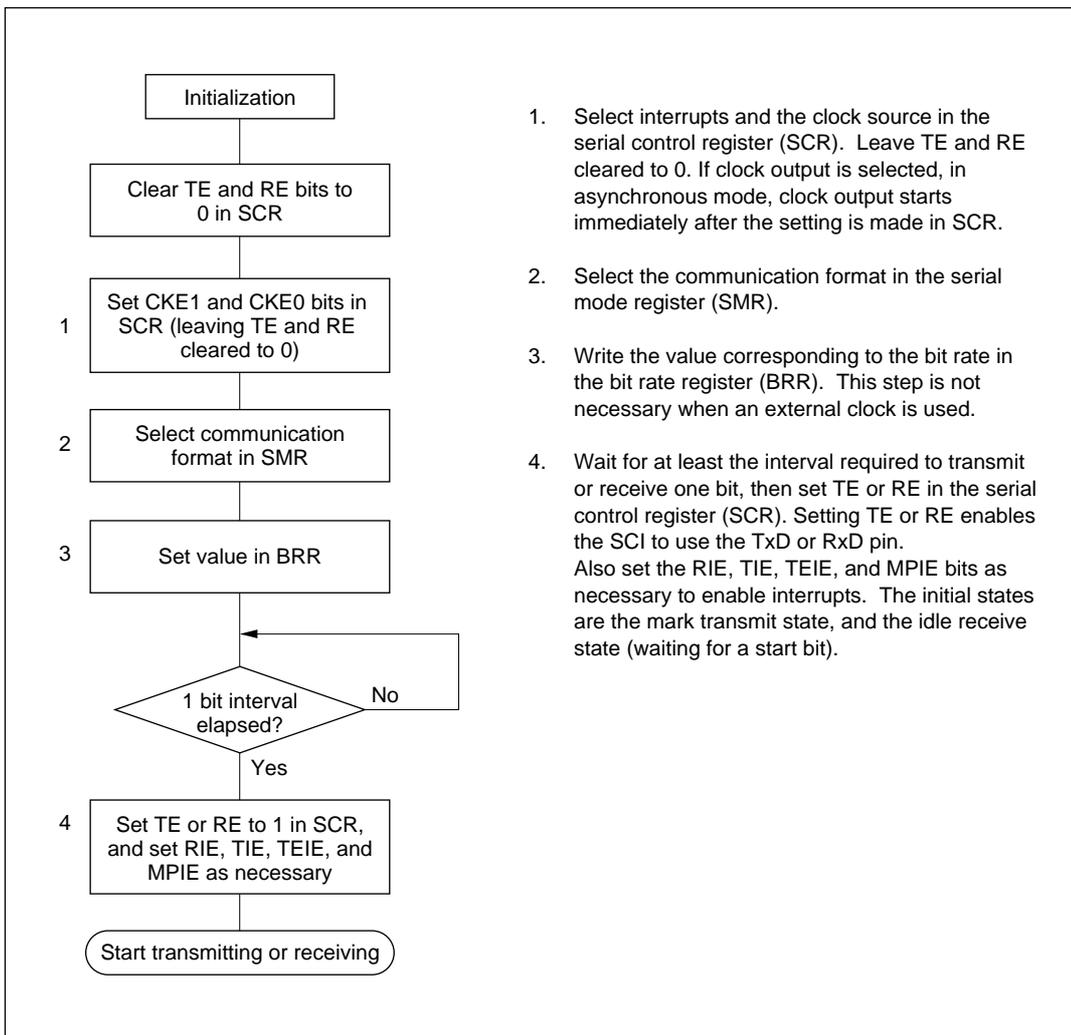

Figure 12-4 Sample Flowchart for SCI Initialization
(3) Transmitting and Receiving Data
- **SCI Initialization:** Before transmitting or receiving, software must clear the TE and RE bits to 0 in the serial control register (SCR), then initialize the SCI following the procedure in figure 12-4.
(2) Transmitting and Receiving Data
- **SCI Initialization:** The SCI must be initialized in the same way as in asynchronous mode. See figure 12-4. When switching from asynchronous mode to synchronous mode, check that the ORER, FER, and PER bits are cleared to 0. Transmitting and receiving cannot begin if ORER, FER, or PER is set to 1.